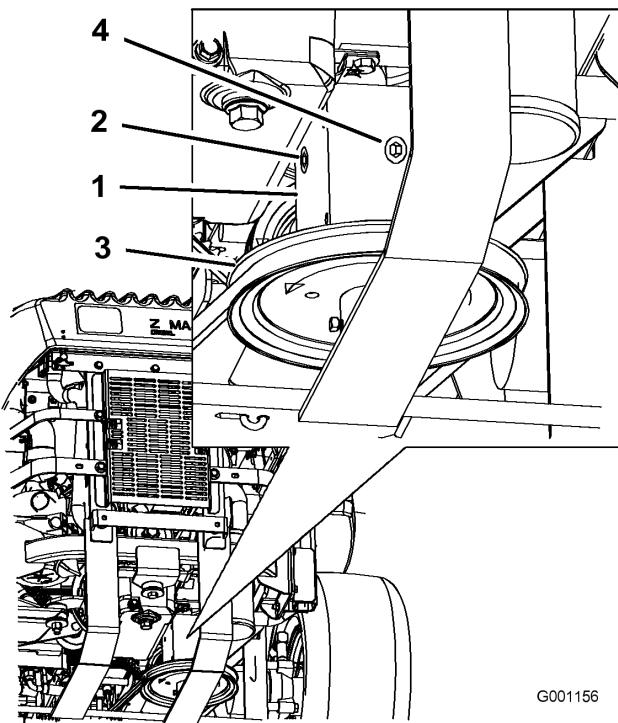

Figure 46
4. Remove the side or rear plug on the gear box. (Figure 46).